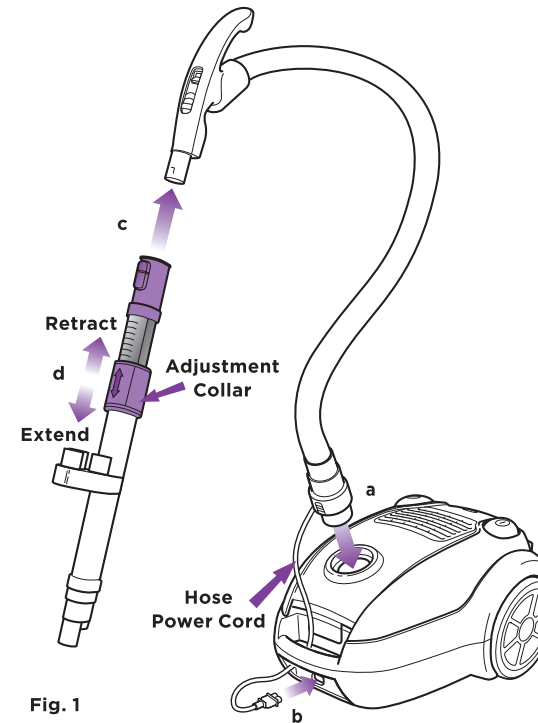

Fig. 1
- 3 Insert the end of the flexible hose opposite the handle into the air intake duct on the vacuum. It only fits in one way. Push it in until it locks into place. (Fig. 1, a)
- 4 Plug the power cord from the hose through the handle into the vacuum. (Fig. 1, b)
- 5 Insert the end of the telescopic tube into the end of the flexible hose handle. It only fits in one way. Push it in until it locks into place. (Fig. 1, c)
- 6 To adjust the length of the telescopic tube, hold the adjustment collar, push toward the floor to extend and pull back towards you to retract. (Fig. 1, d)